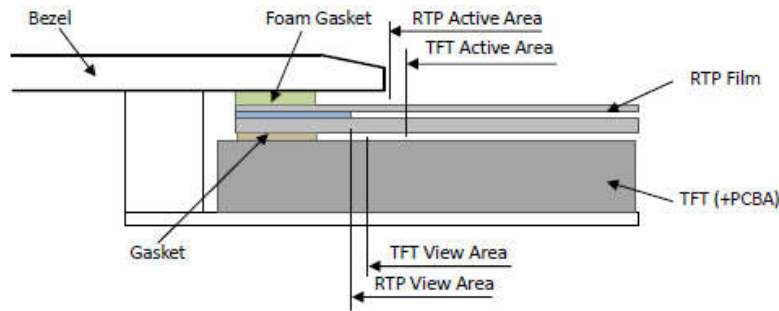

Figure 5
- In general design, RTP V.A. should be bigger than the TFT V.A. and RTP A.A. should be bigger than the TFT A.A. (Figure 5)
- 通常设计时：RTP 的可视区 V. A. 应不小于 TFT 的可视区 V. A. 及 RTP 的动作区 A. A. 应不小于 TFT 的动作区 A. A. (附图 5)